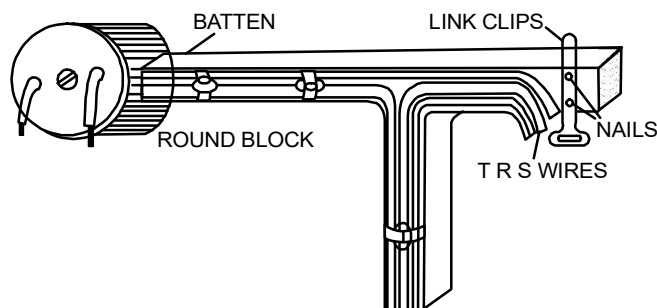

Fig. 6.14: CTS Wiring
3. **C.T.S. or T.R.S. Wiring :** In this system of wiring, generally *C.T.S.* (Cab Tire Sheathed) or *T.R.S.* (Tough Rubber Sheathed) conductors are employed. The conductors are run on well seasoned, perfectly straight and well varnished teak wood batten of thickness 13 mm. The width of the batten is chosen depending upon the number of wires to be run on it. While doing this type of wiring, the batten is fixed on to the wall by means of wooden screws and gutties already cemented in the wall. The wires are held on the batten with the help of clips already fixed on the batten with the help of nails as shown in Fig. 6.14.